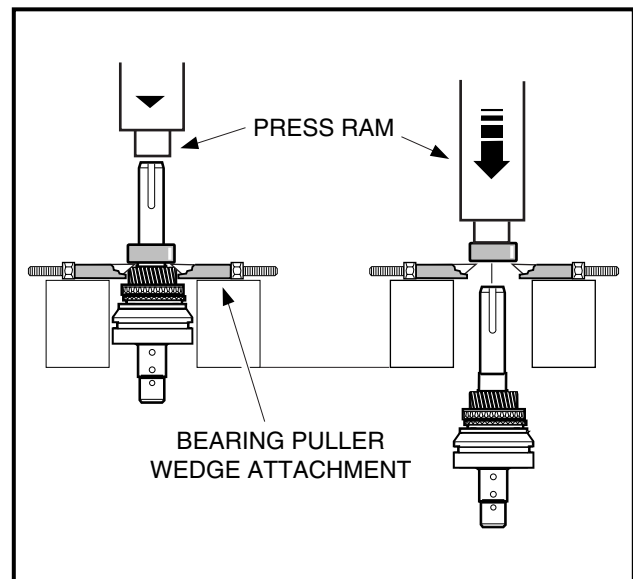

Figure 7-21 Remove Bearing
- 4.1. Place a bearing puller wedge attachment (CCI P/N 1012812) between the bearing (57) and input gear assembly (55) (**Figure 7-16, Page 7-9**), then press the bearing off the input shaft (54) as shown (**Figure 7-21, Page 7-13**). See following **CAUTION**.
- 5.2. Place a bearing puller wedge attachment (CCI P/N 1012812) between the bearing (82) and input gear assembly (55) (**Figure 7-17, Page 7-10**), then press the sealed C3 bearing off the input shaft (84) as shown (**Figure 7-21, Page 7-13**). See following **CAUTION**.